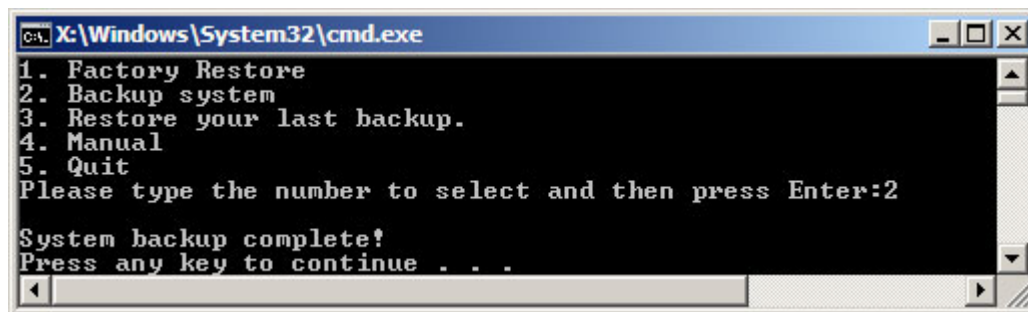

Figure B-39: System Backup Complete Window
Step 3: The screen shown in **Figure B-39** appears when system backup is complete. Press any key to reboot the system.